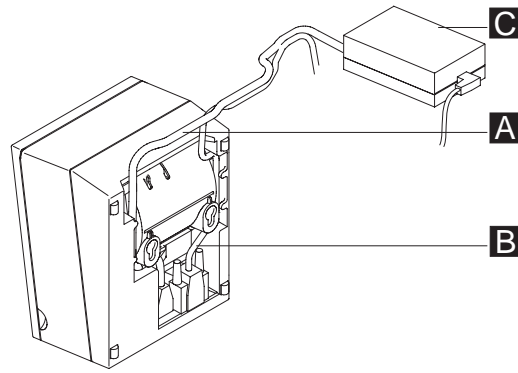

Figure 48. Attaching and routing the cables to the printer.
- a. Install the printer cables and route the cables as shown in Figure 48 on page 65.
4. Connect and route the RS-232 communication cable or Powered USB cable **A** and the power supply cable **B** as shown in Figure 48 on page 65.